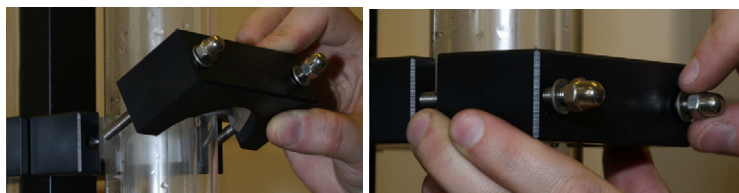

Fig. 60—Install and secure the front half of the clamps.
12. Place the front half of upper clamp over the column and finger-tighten the cap screws on the front of the clamp (Fig. 60). Do not use a wrench to tighten the screws. Repeat the procedure for the lower clamp on the column.